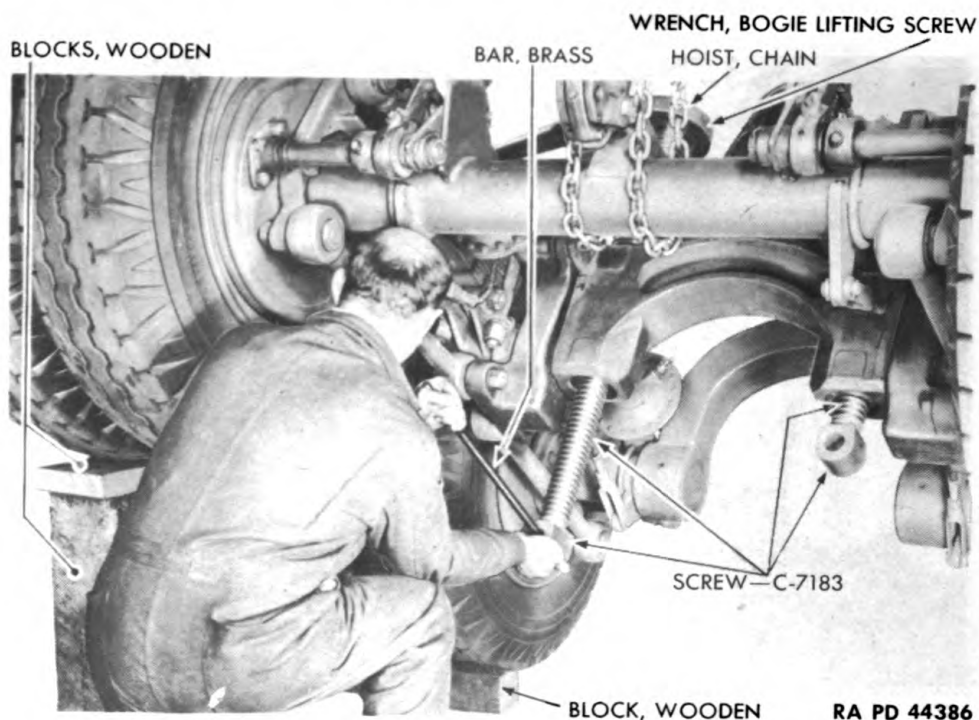

Figure 245—Removing Bogie Lifting Inner Screw
(1) Raise front end of bogie up and block it so it cannot tip or fall (fig. 245).
(2) Place bogie lifting screw wrench on outer screw to prevent it from turning. Then unscrew and remove inner screw C7183 by turning it with a round brass bar (fig. 245).
(3) Unscrew and remove outer screw C7181.